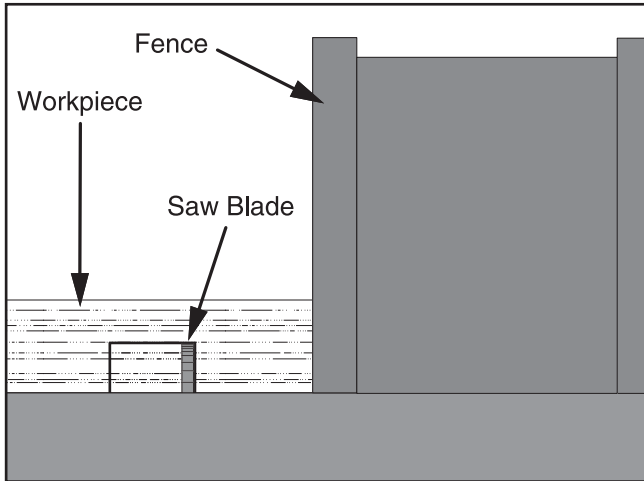

Figure 47. Single-blade dado first cut.
- If dadoing the length of a workpiece, align the blade to cut one of the dado sides, as shown in **Figure 47**.